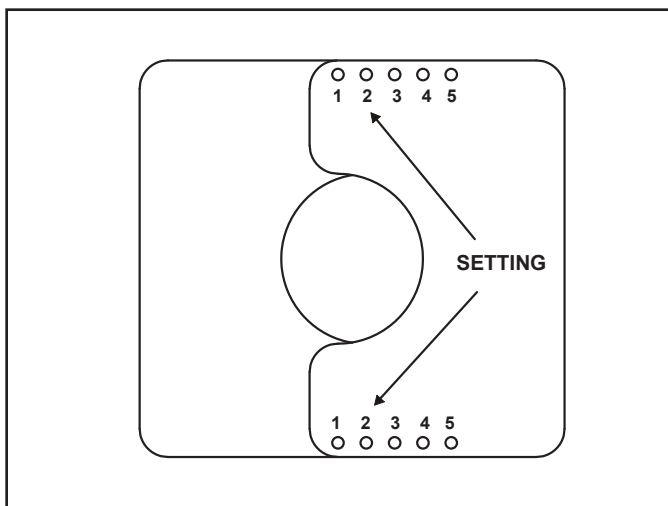

Figure 4.11 Set the Exhaust Restrictor
3. The setting for MEZZO36, MEZZO48 is 2-2. Align the holes marked “2” on the numbered exhaust restrictor piece with the hole on the other exhaust restrictor piece. See Figure 4.11. Align the exhaust restrictor pieces with the pilot holes in the inner firebox chamber. Use two 1/2 inch self-piercing screws to secure vent restrictor to firebox heat shield.
2. The setting for MEZZO36ST and MEZZO48ST is a 2.5 inch setting, or 2-2. Align the holes marked “2” on the numbered exhaust restrictor piece with the hole on the other exhaust restrictor piece. See Figure 4.11. Center the exhaust restrictor on the vent and secure in place with two 1/2 inch self-piercing screws.